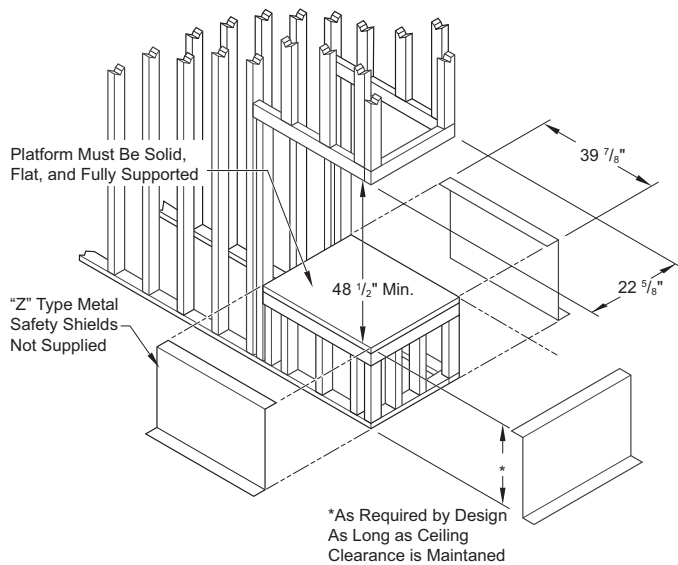
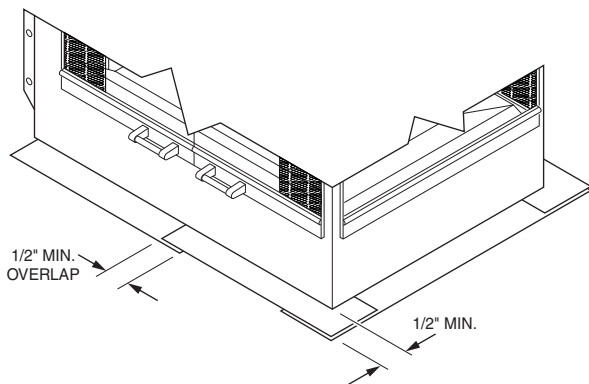
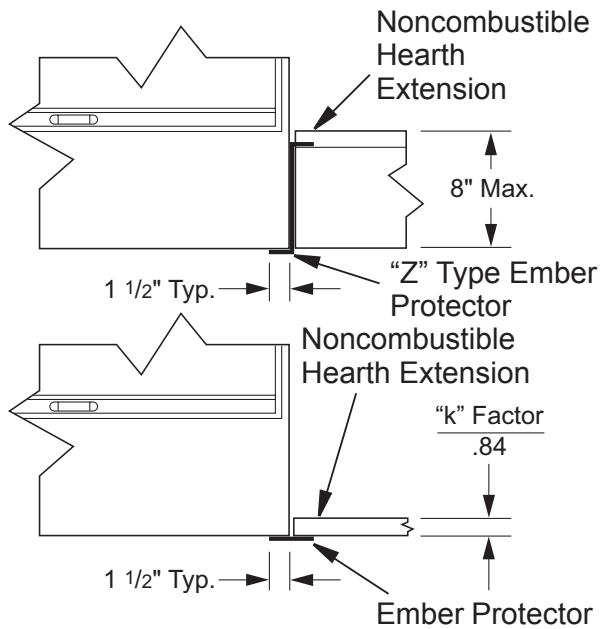

Figure 6 - Framing Firebox with "Z" Type Ember Protectors
Figure 7 - Ember Protectors
Figure 10 - Raised Hearth Extension
5. Before securing fireplace to prepared framing, ember protector (provided) must be placed between hearth extension (not supplied) and under bottom front edge of fireplace to protect against glowing embers falling through (see Figure 7). If fireplace is to be installed on a raised platform, a Z-type ember protector (not supplied) must be fabricated to fit your required platform height (see Figure 6). The ember protector should extend under fireplace a minimum of 1 1/2". The ember protector should be made of galvanized sheet metal (28 gauge minimum) to prevent corrosion.
Thermal conductivity "k" of materials can be obtained from manufacturer or supplier of noncombustible material. If hearth extension is to be raised, a "Z" type ember protector must be used (see Figure 6 and Figure 10, page 7).